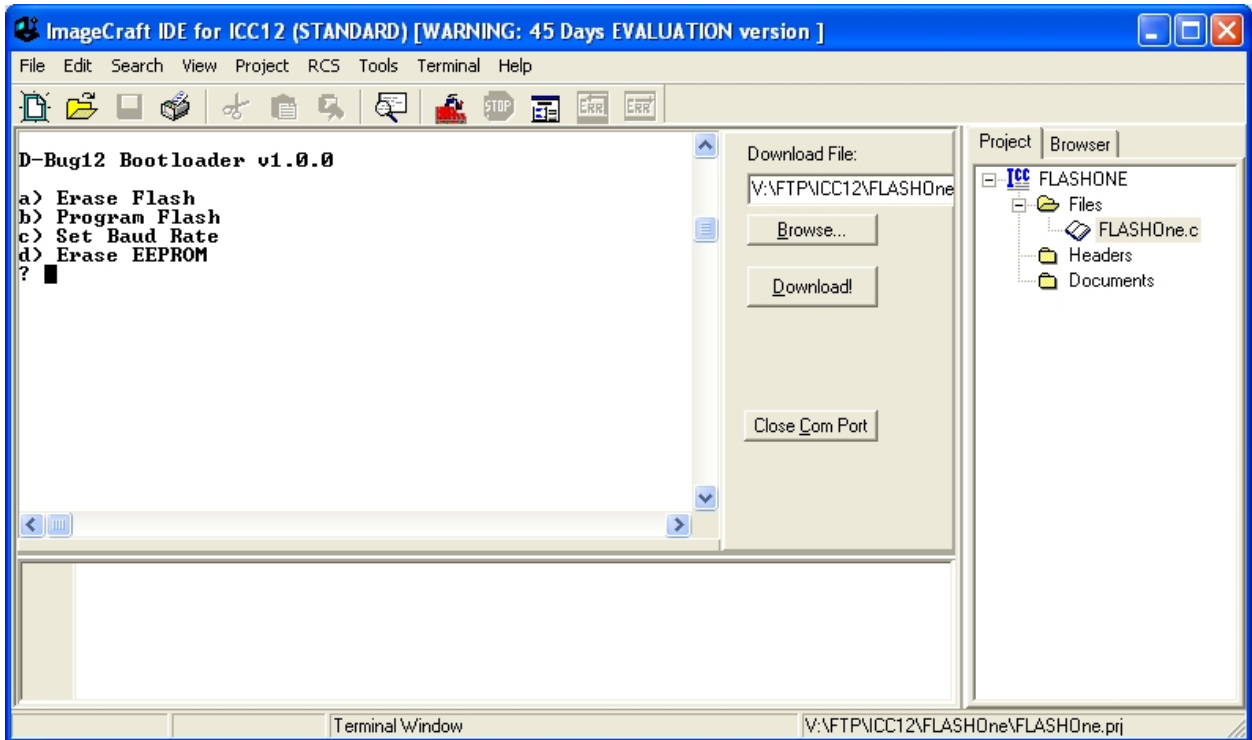

Figure 7. MiniDragon+ Bootloader Prompt.
3. Press the MiniDragon+ reset button, and observe the messages and prompt shown in Figure 7. The Bootloader is a tiny portion of D-Bug12 which is retained in FLASH until last resort (that is, you’ll need to implement an external Background Debug Monitor or BDM in order to fully remove it, should you wish).